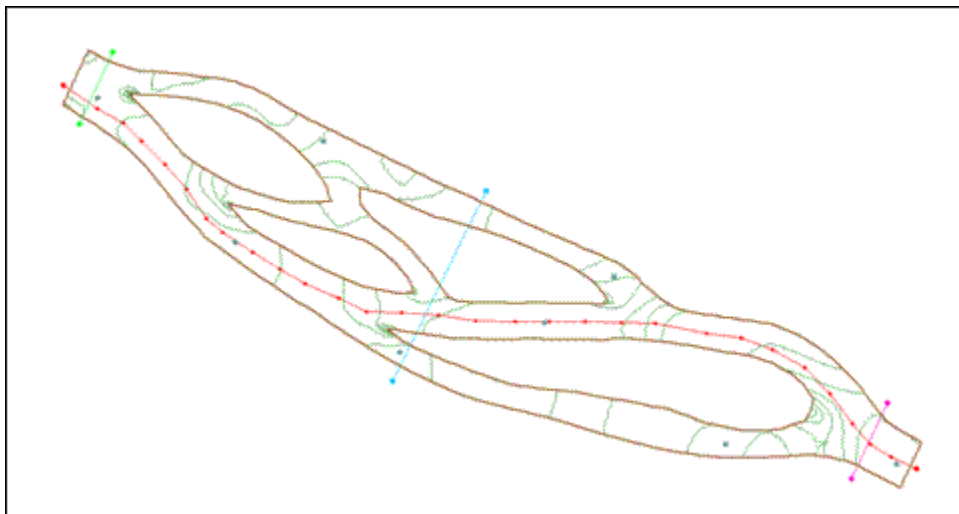

Figure 8 Profile and cross section arcs
5. Create an arc down the main channel, as shown in Figure 8. Remember to double-click the last point to end the arc.
2. Create each of the cross section arcs, as shown in Figure 8. Note: When creating these, DO NOT click ON the profile arc, as this would split it.